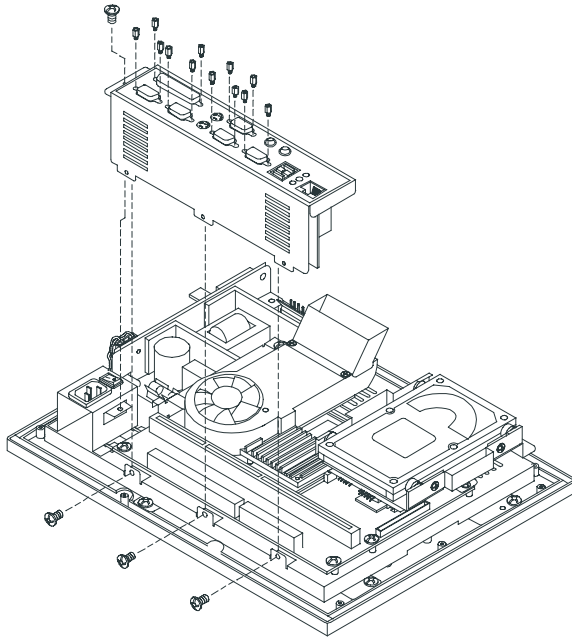

Figure 2-13: Installing/removing the I/O adapter in the PPC-103
4. When the PCM-9573 is mounted in the panel, plug and press the adapter into the socket (see Figure 2-13).